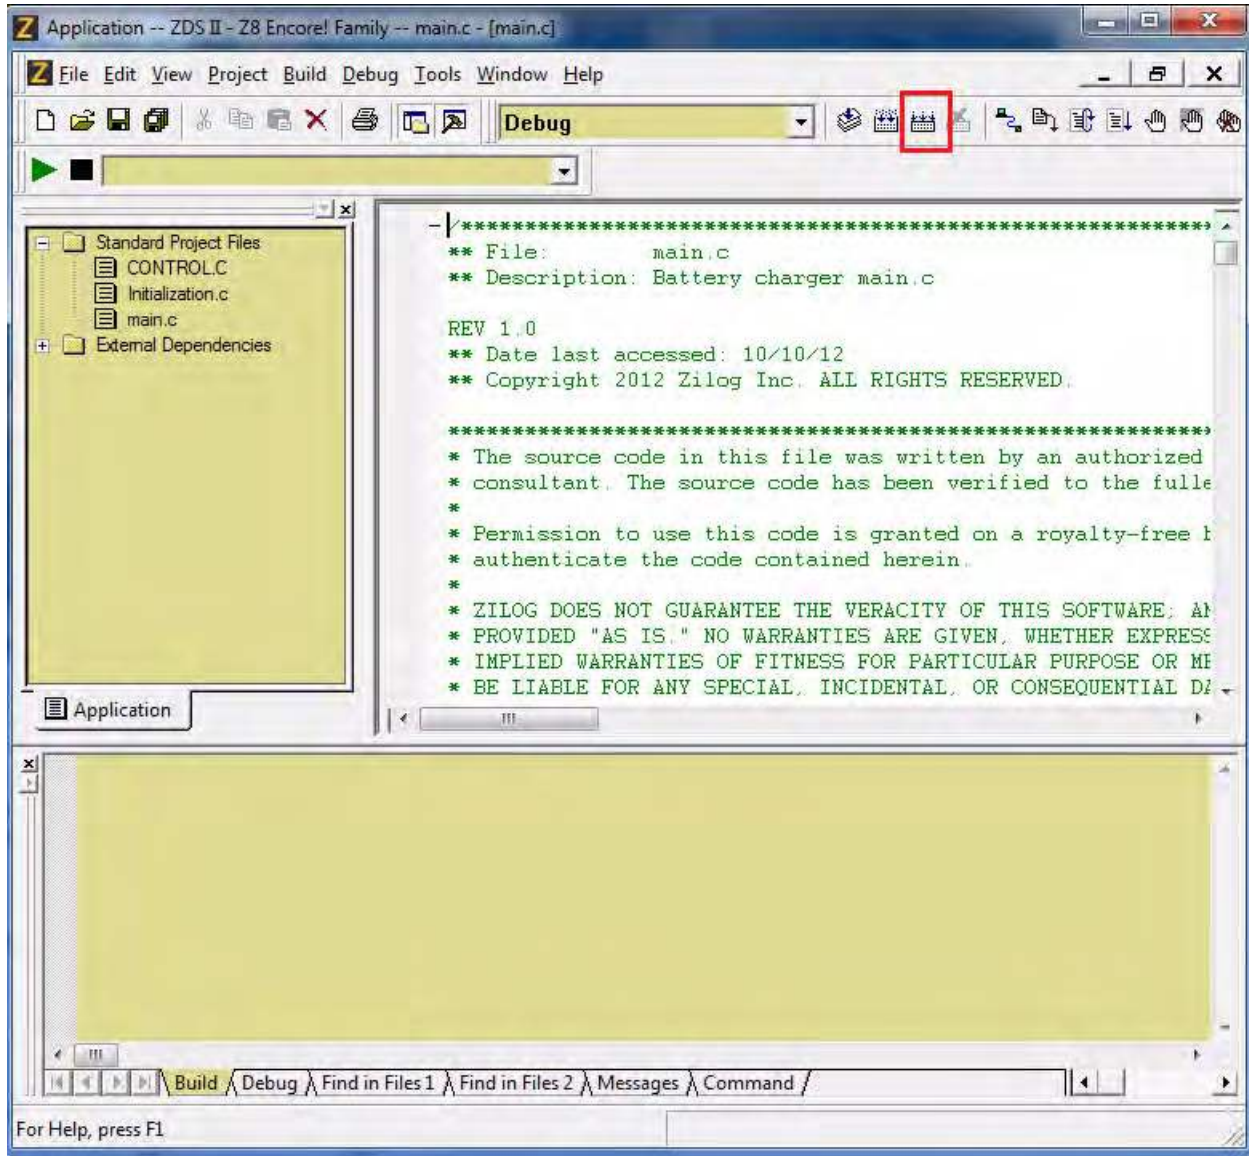

Figure 4. Build Mode Configuration
6. Click the **Rebuild All** toolbar icon, which is highlighted in red in Figure 4.